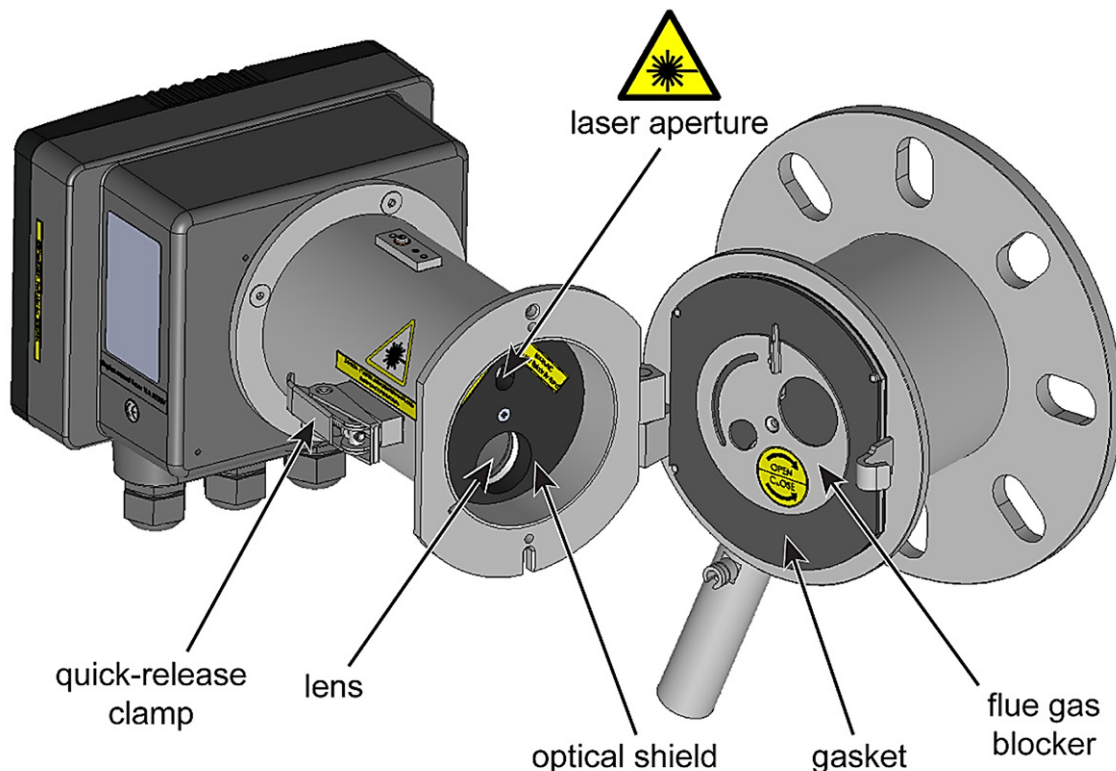

Fig. 6-1 Sensor hinged open for cleaning
- 4) Referring to Fig. 6-1, undo the quick-release clamp and open the sensor body.